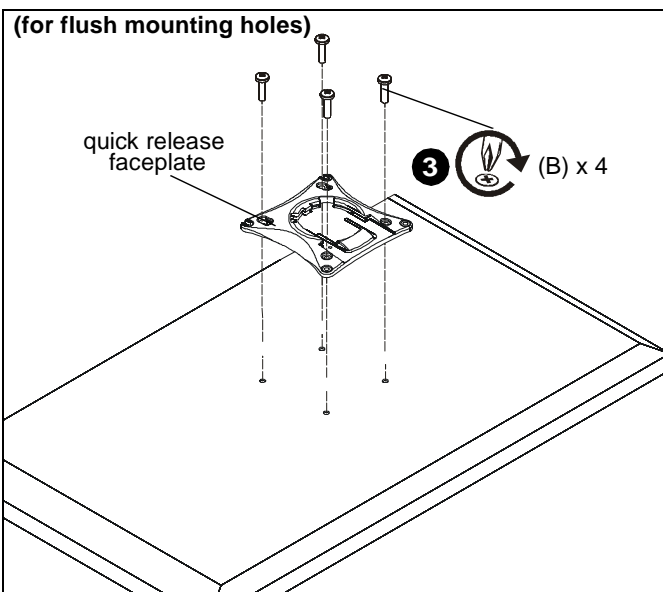

Figure 8
- Using Phillips screwdriver, carefully install four M4x14mm screws (B) through corresponding holes on faceplate and into the mounting holes on the display. (See Figure 8)